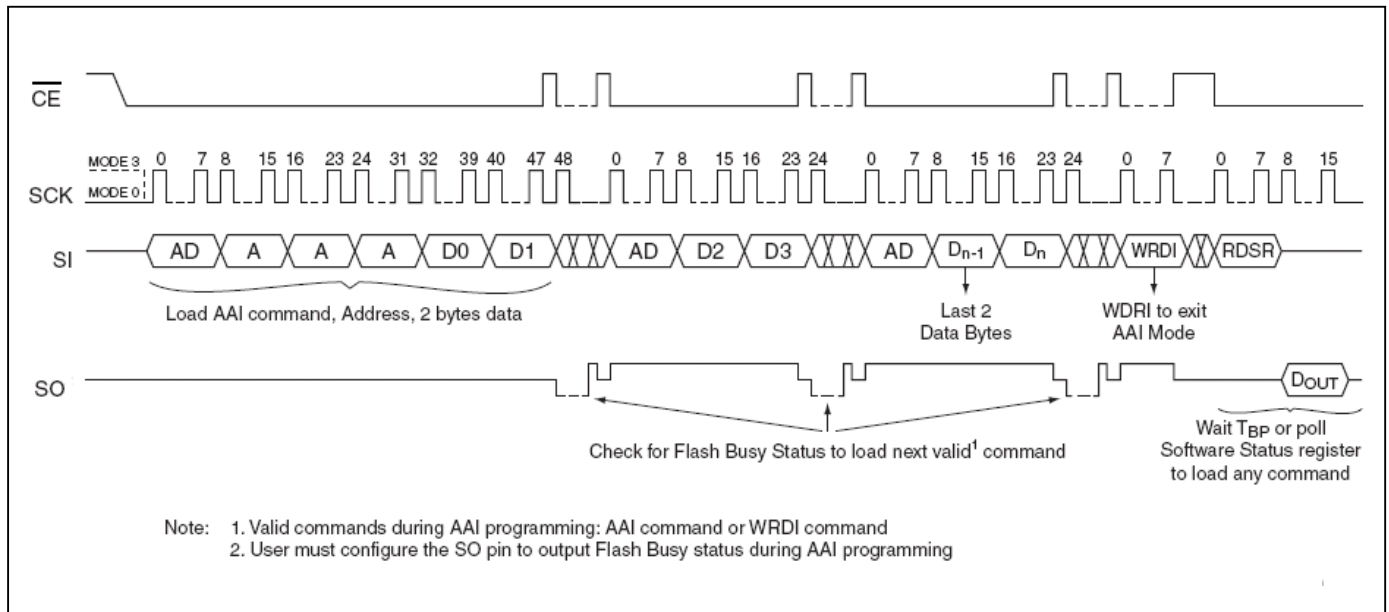
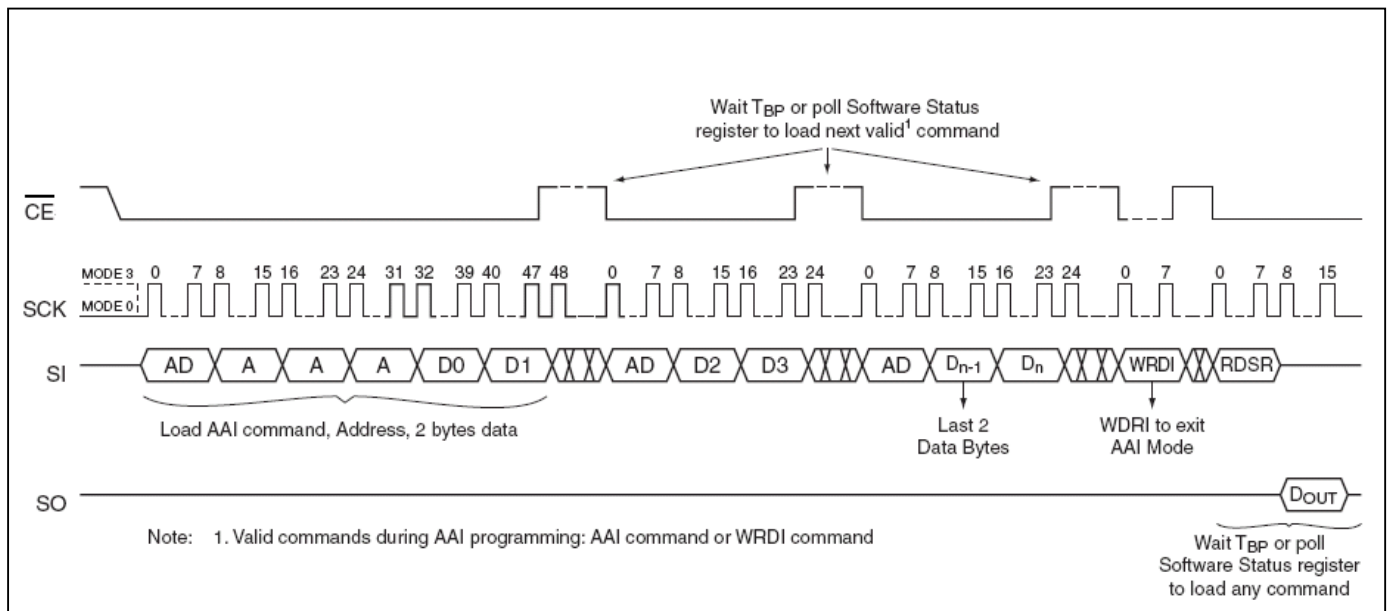

Figure 10: AAI Word Program Sequence with Hardware End of Write Detection
Figure 11: AAI Word Program Sequence with Software End of Write Detection
7) to LSB (bit 0). The first byte of data (D0) will be programmed into the initial address $[A_{23}-A_1]$ with $A_0=0$; the second byte of data (D1) will be programmed into the initial address $[A_{23}-A_1]$ with $A_0=1$. \overline{CE} must be driven high before the AAI WORD program instruction is executed. The user must check the BUSY status before entering the next valid command. Once the device indicates it is no longer busy, data for next two sequential addresses may be programmed and so on. When the last desired byte had been entered, check the busy status using the hardware method or the RDSR instruction and execute the WRDI instruction, to terminate AAI. User must check BUSY status after WRDI to determine if the device is ready for any command. Please refer to Figure 10 and Figure 11.